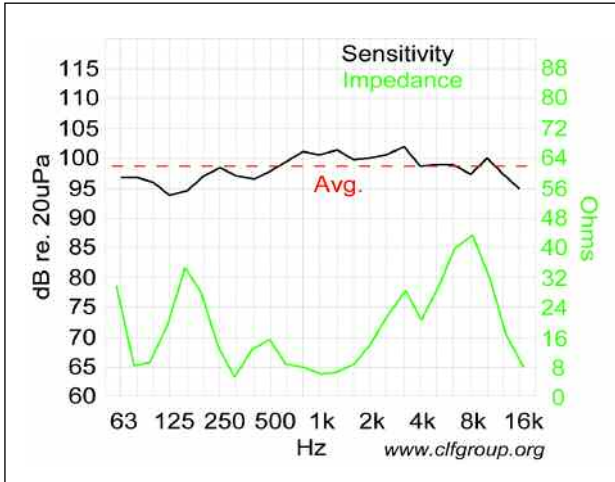

Figure 1
The average sensitivity of the SH-50 is 99 dB ref. 20uPa with 2.83 Vrms applied across the loudspeaker's terminals (**Figure 1**). Due to the large high frequency radiating area of the SH-50, it was measured at eight meters and normalized to one meter. This is relatively high sensitivity, as would be expected from a device with a tight radiation pattern and multiple transducers. One reason for the higher than usual sensitivity at lower frequencies is that two LF radiators are incorporated into the design, and the loudspeaker is physically large enough to provide some horn loading in the lower octave bands.
The Impedance vs. Frequency plot of the SH-50 is also included in **Figure 1**. A single SH-50 should prove to be an easy load for most professional amplifiers, allowing the amplifier to operate as a constant voltage source to the loudspeaker. The typical allowable wire resistance is five percent of the minimum value of the impedance curve (within the passband of the loudspeaker). Using this criteria cable